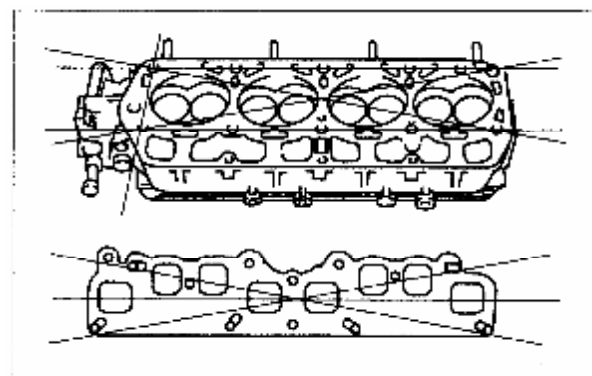

Figure3-6 Cylinder Head warpage Mesurement
3.1.6 Check cylinder head for crack, and follow procedures indicated in figure 3-6 to measure warpings of cylinder head base and sides where intake and exhaust manifold are installed.